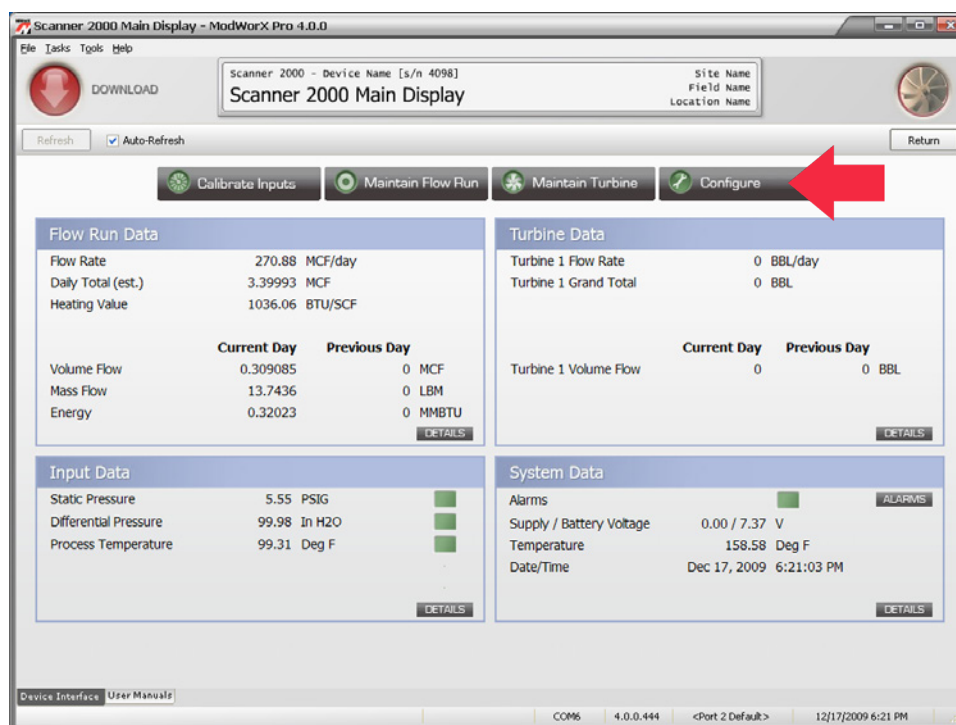

Figure 6.1
1. Click the **Configure** button in the task menu bar on the Main Display screen (Figure 6.1).